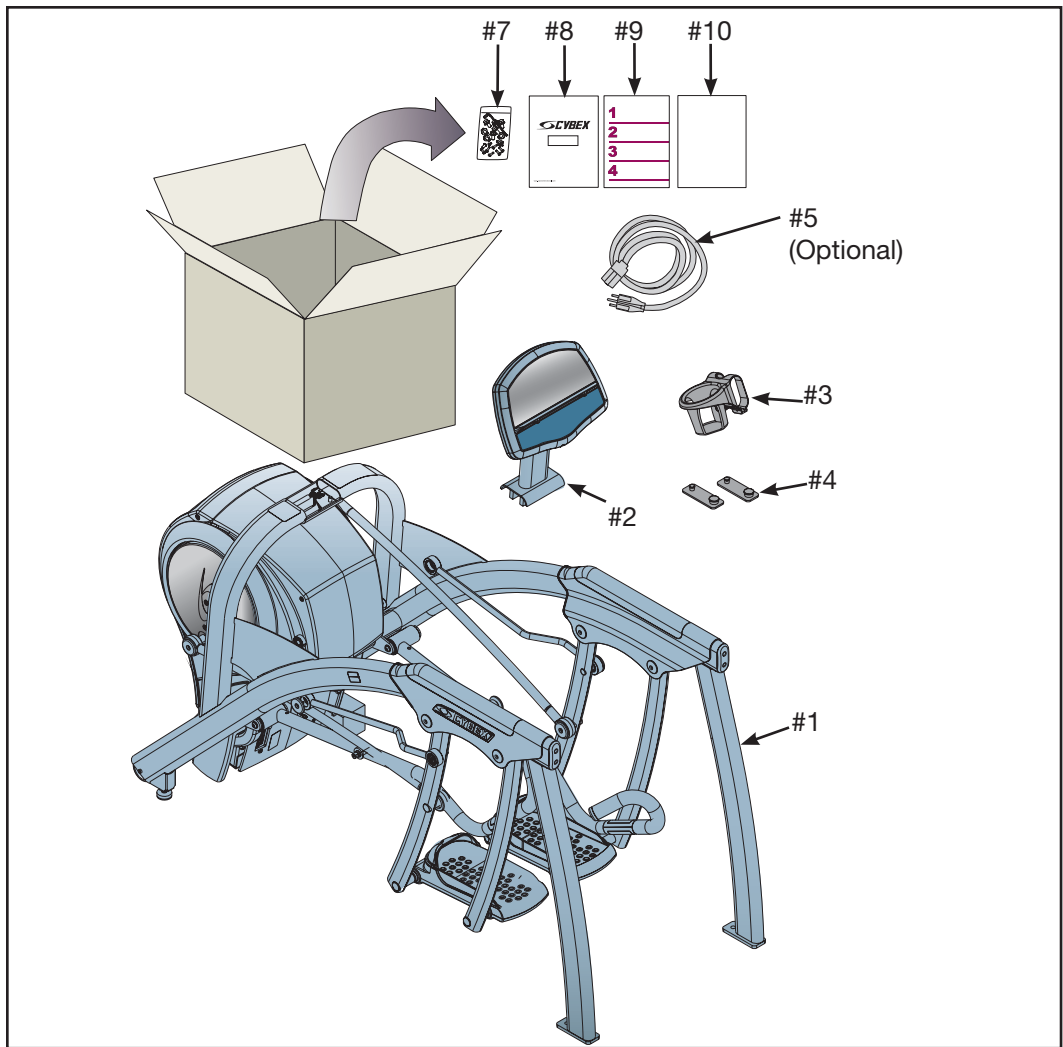

Figure 1
D. Check to be sure that the following items are present. Check off (☑) each item as you find it. See Figure 1. If any of the parts are missing contact Cybex Customer Service.